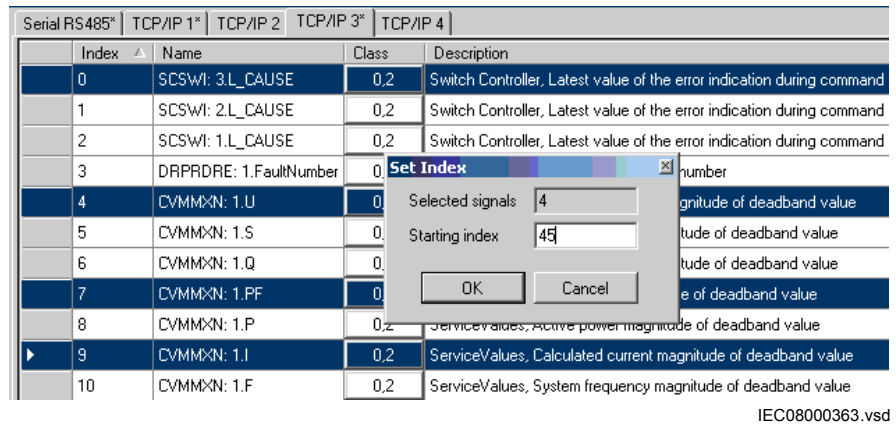

Figure 121: CMT: Set Index menu
2. The selection window shows the number of signals selected, see Figure 121.